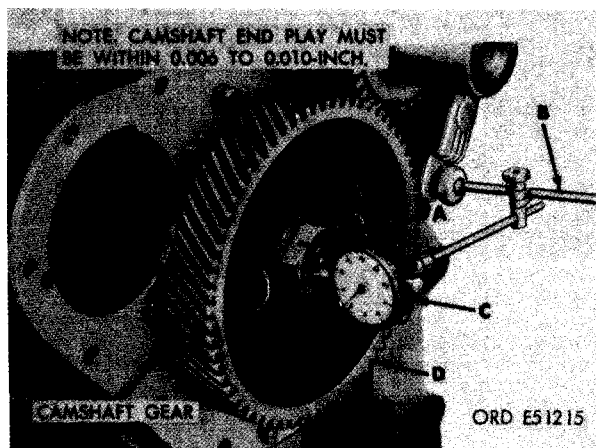

FIGURE 473. CHECKING CAMSHAFT END PLAY USING A DIAL INDICATOR.
**a. Check Camshaft End Play.** Figure 473. (A) Tap camshaft gear retaining nut using a soft-faced hammer and force camshaft and gear toward rear of crankcase and cylinder assembly as far as possible. (B) Mount dial indicator on front plate so indicator point rests on end of camshaft assembly. (C) Set indicator on zero reading ("0"). (D) Insert heavy duty screwdriver between camshaft gear and front plate and move gear and camshaft through limit of travel to check end play. End play must be within 0.006 to 0.010-inch.
**Note.** When end play exceeds limits specified, remove the camshaft gear and replace camshaft thrust plate following instructions in (1) through (5) below.
- (5) Recheck camshaft end play following instructions for figure 473.
**Note.** When end play is less than dimension specified (fig. 473), remove the camshaft gear and camshaft thrust plate as outlined in (1) and (2) above. Lap the thrust plate until the minimum end play dimension is attained. Install thrust plate and camshaft gear as directed in (3) and (4) above, and recheck end play following instructions in figure 473.